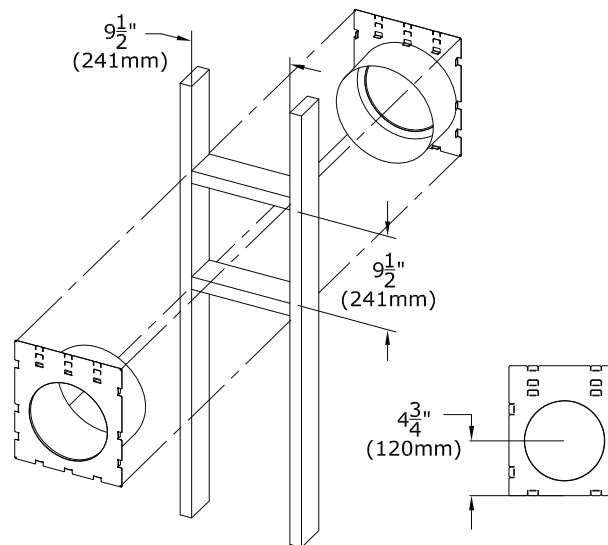

Figure 3.5 - Minimum WPT Framing
Refer to FIGURE 3.5 below for the following clearances
1. Measure from floor level of the fireplace to the center of where the vent pipe will penetrate the wall. The dimension in FIGURE 3.5 is used with a Simpson DuraVent elbow.